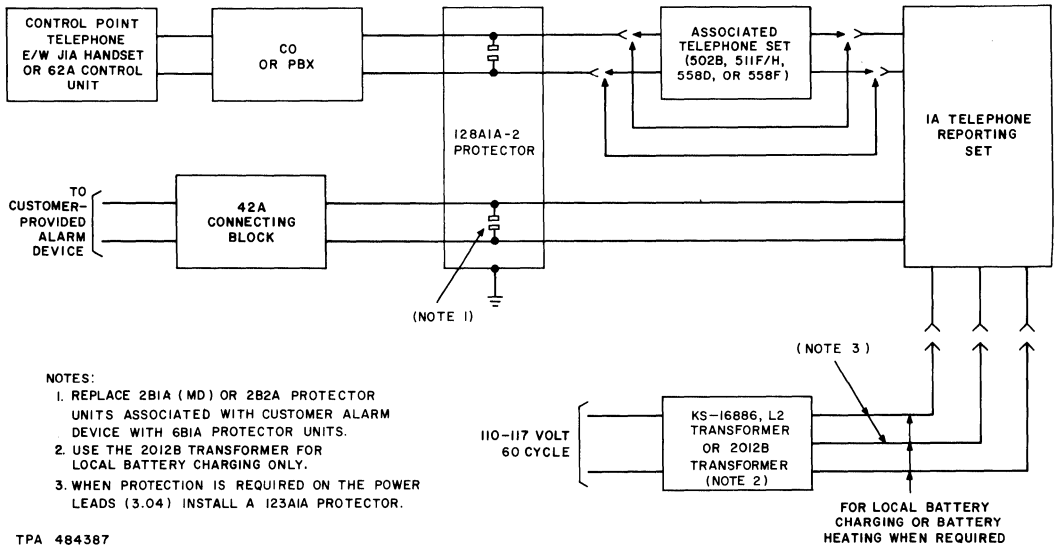

Fig. 5—Block Diagram of Typical Installation
**Note:** 2B1A (MD) or 2B2A protector units of the 128A1A-2 protector that are associated with the customer detecting device must be replaced with 6B1A protector units. Do not replace protector units associated with the CO or PBX line.
**3.07** Leads associated with the customer-provided detecting (alarm) device should be wired from the telephone reporting set through a 128A1A-2 protector and terminated on a 42-type connecting block (Fig. 5). The connecting block provides a termination for the wiring from the detecting device and marks the division of customer and telephone company responsibility.